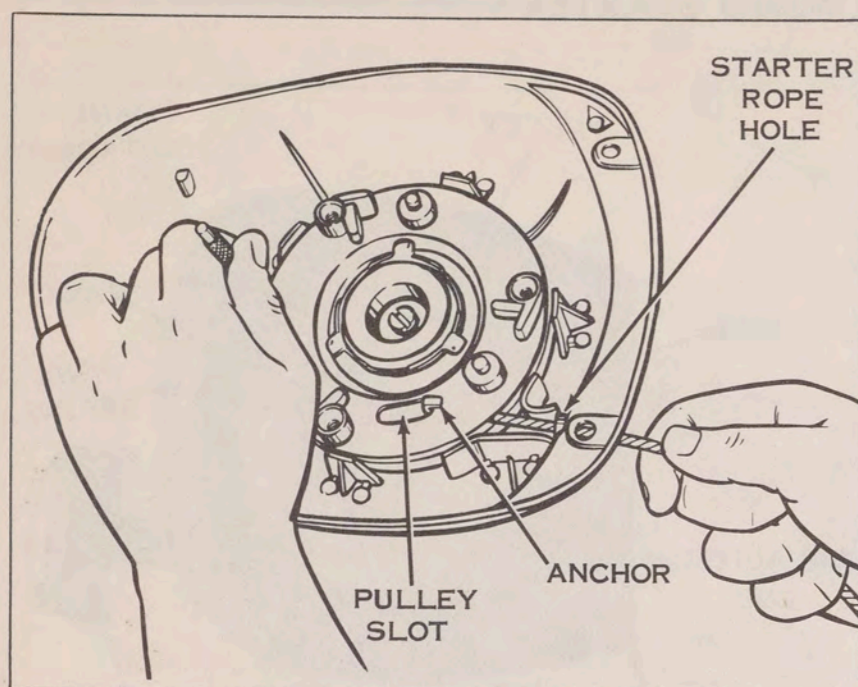

Figure 7-2. Pulley with Rope Extended
a. Pull rope so that it is fully extended. Insert a pin through the hole in starter pulley to hold pulley securely in place. (See figure 7-2.)
c. Remove old rope by pulling anchor end out of pulley slot (see figure 7-2) and pulling rope out through slot.